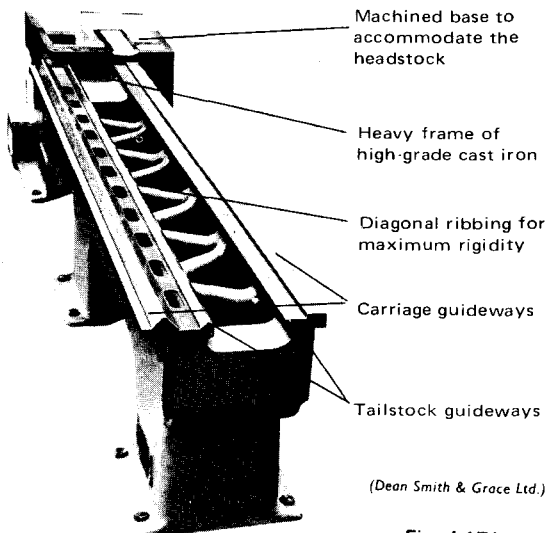
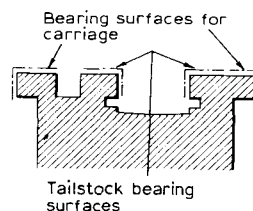

Fig. 4.171
Fig. 4.172
*The lathe bed.* Fig. 4.171 illustrates the main details.
The machined guideways may be flat, vee or a combination of flat and vee. The flat and vee type is illustrated in Fig. 4.171 and the flat type is shown in Fig. 4.172.